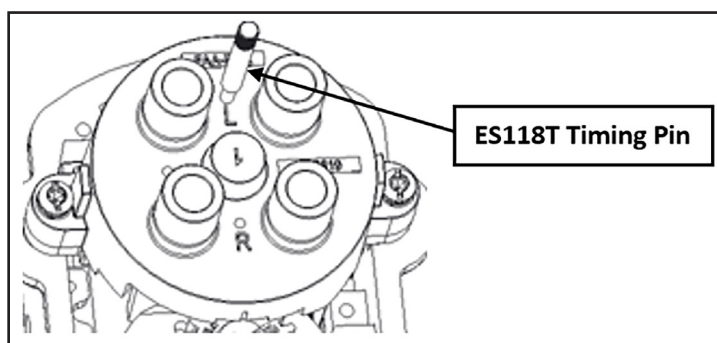

Figure 6.15 – Left Rotation
- B. Left Rotation magnetos only: Align the “L” hole in the distributor gear with the “L” hole in the distributor block assembly (27a). Lock the distributor gear (27b) in position by inserting the ES118T Timing Pin through the hole marked “L”. Refer to Figure 6.15.